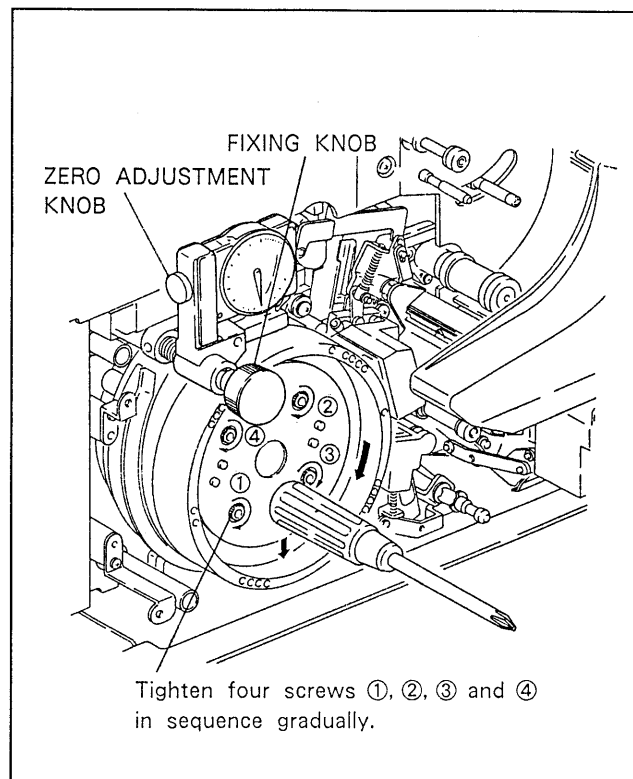

Fig. 6-1-9. Upper Drum Installation (Final Tightening)
16. Tighten the four screws ② alternately in the sequence that is shown in Fig. 6-1-9. After completion, check again the dial gauge swing is within $3\ \mu\text{m}$.